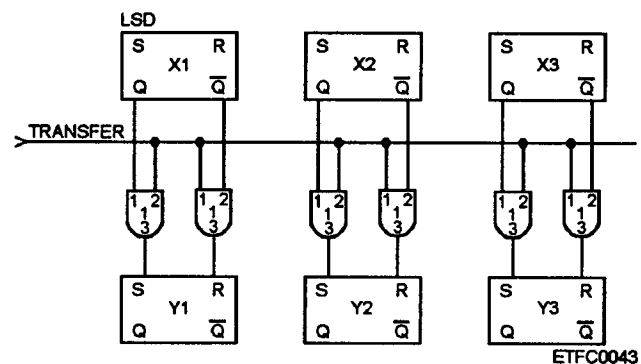

Figure 4-26.—example of a double-line parallel transfer,
- **Double-line (dual) parallel transfer** (also called forced method)—1's **and** 0's are moved. This transfer is faster than the single-line parallel transfer; however it requires more logic gates. With this method the receiving register is forced to assume the state of corresponding flip-flops of the sending register. This eliminates the need to clear the receiving register's contents before the transfer. Refer to figure 4-26.